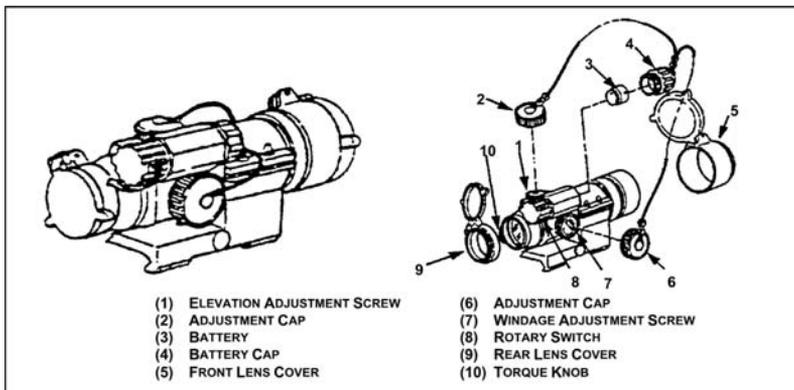

Figure 071-705-0003-1. M68, close combat optic
- a. Open the front and rear lens covers (figure 071-705-0003-1).
- d. If adjustment is required, remove adjustment screw caps from adjustment screws by turning them counterclockwise (Figure 071-705-0003-1).
- (1) To move the point of impact to the right, turn the windage adjustment screw counterclockwise.
- (2) To move the point of impact to the left, turn the windage adjustment screw clockwise.
- (3) To move the point of impact up, turn the elevation adjustment screw counterclockwise.
- (4) To move the point of impact down, turn the elevation adjustment screw clockwise.